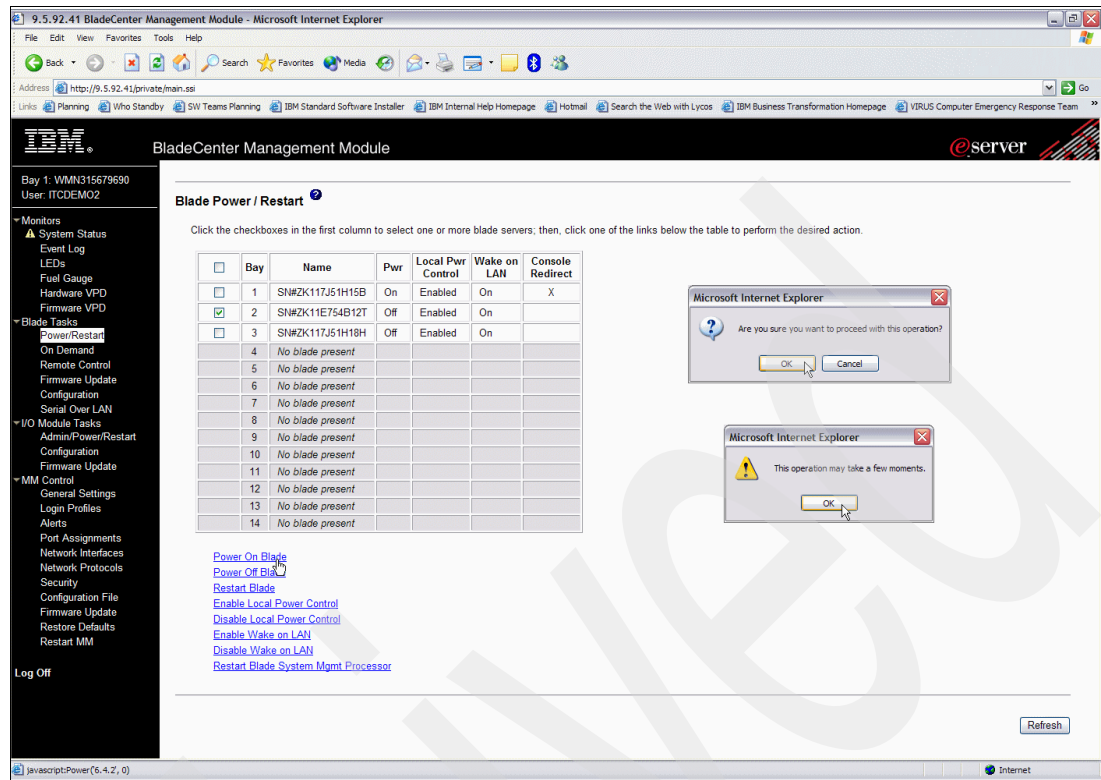

Figure 6-73 Power On Blade in Management Console
- f. The window refreshes and the Pwr column shows that the Blade is **ON**. See Figure 6-73 on page 223.